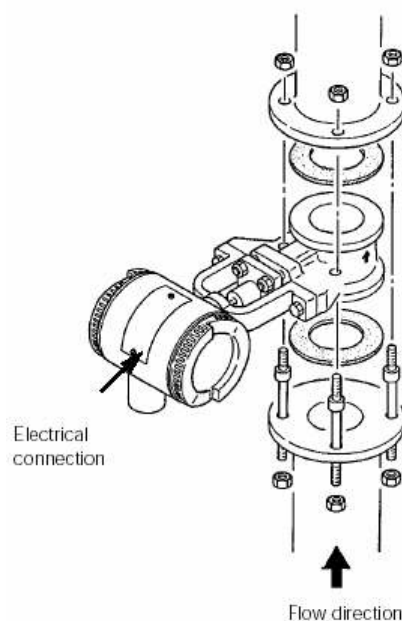

Figure 3.17
1. Insert four collars on each of the four bolts and check that all four collars contact the outside diameter of the flowmeter body (see fig. 3-17).